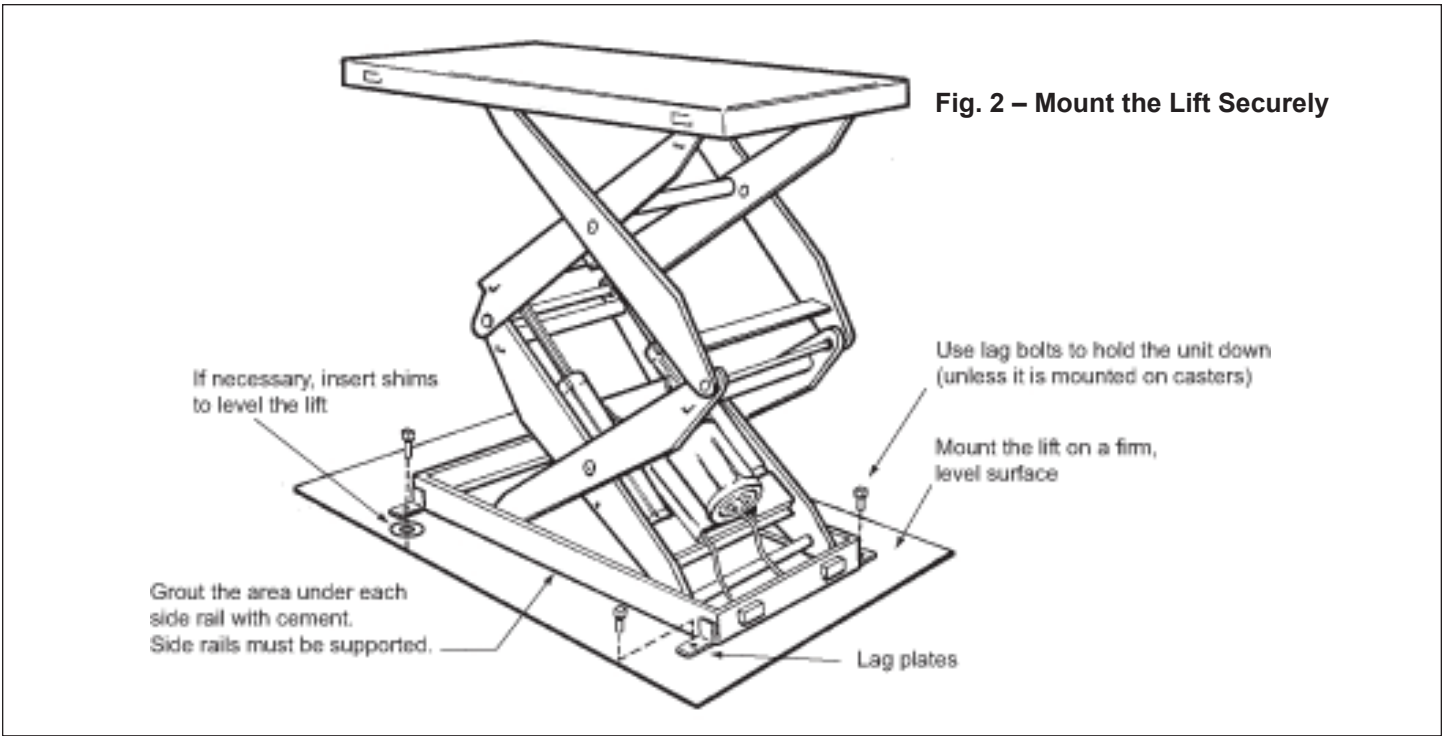

Fig. 2 – Mount the Lift Securely
7. Move the lift into position, supporting the base of the lift. Install the lift as shown in Fig. 2. Unless the lift is mounted on casters, lag the lift to the floor.
17. If your lift is mounted in a pit, align the unit with the sides of the pit. Once you are sure the lift is positioned correctly, mark the locations of the lag holes in the base frame, and drill the holes. If necessary, insert metal shims to level the base of the lift. Insert and tighten the lag bolts to secure the lift. Grout under the base rails to prevent vibration and distortion of the base frame, as shown in Fig. 2.
2. If the lift is on casters, place it on a firm, flat surface as shown in Fig. 2. Stationary lifts should be lagged to the floor.